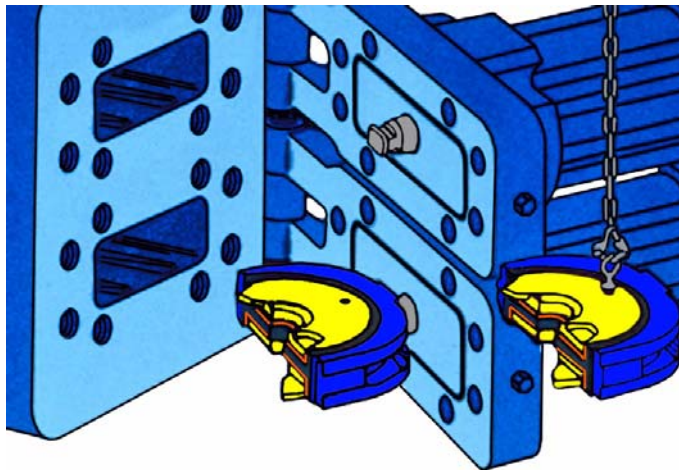

Figure 4-19. Install Eyebolt and Slide Ram Horizontally
4. Install 1"-8UNC (or  $\frac{5}{8}$  - 8 UNC) eyebolt in the top of the ram as shown in Figure 4-19.
5. Slowly lift the ram to take the weight off the ram shaft and slide the ram horizontally as shown in Figure 4-19.